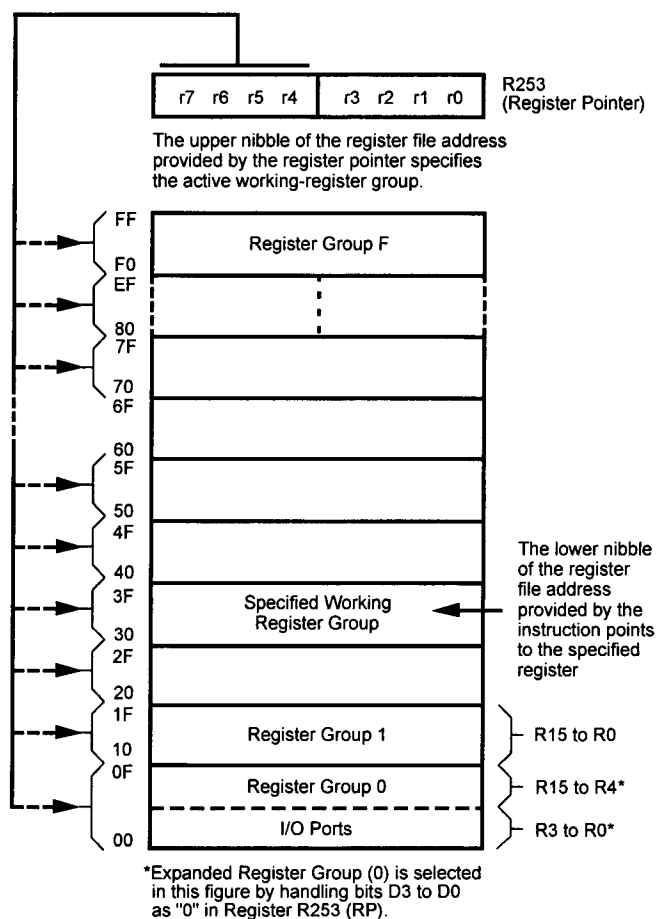

Figure 19. Register Pointer—Detail
**Register File.** The register file (bank 0) consists of four I/O port registers, 236 general-purpose registers, and 16 control and status registers (R0–R3, R4–R239, and R240–R255, respectively). In addition, two expanded registers groups (Banks D and F) are also included. Instructions can access registers directly or indirectly through an 8-bit address field. This option allows a short, 4-bit register address using the Register Pointer (Figure 19). In the 4-bit mode, the register file is divided into 16 working register groups, each occupying 16 continuous locations. The Register Pointer addresses the starting location of the active working register group.